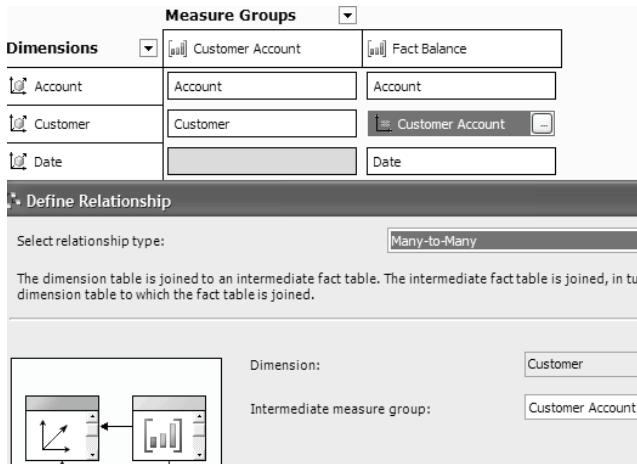

Figure 5.19 Implement a many-to-many relationship by joining the fact table to the dimension on the many side through an intermediate measure group.
3. In the Define Relationship dialog, select the *Customer Account* measure group in the *Intermediate measure group* dropdown (Figure 5.19).